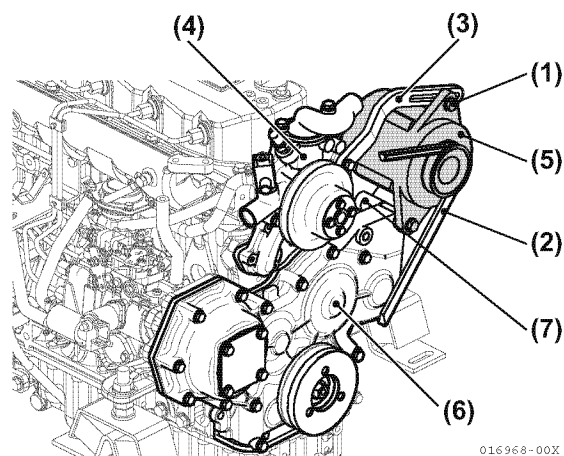

Figure 5-11
9. Remove the adjuster from the freshwater pump, and remove the alternator from the gear case (with spacer) (**Figure 5-11**).